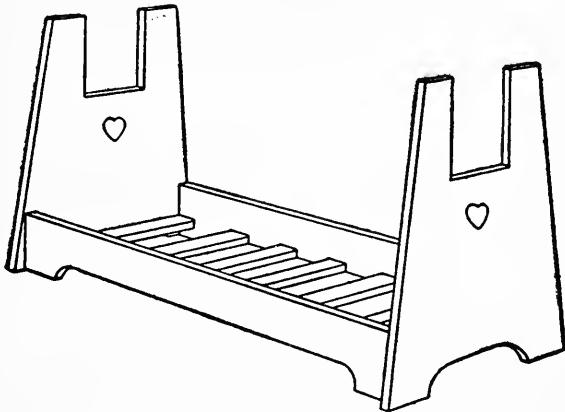

FIG. 135. — A Bed.
Now for the making of some pieces of bedroom furniture. You will find in Figs. 135 and 136 two designs that are easily carried out, one or both of which may be used for
**The Beds** of a doll-house. To make Fig. 135, cut the head and foot by means of the pattern in Fig. 125, and cut the two sides by means of the pattern
in Fig. 126. After preparing these pieces and fastening them together as shown in the illustration (Fig. 135),